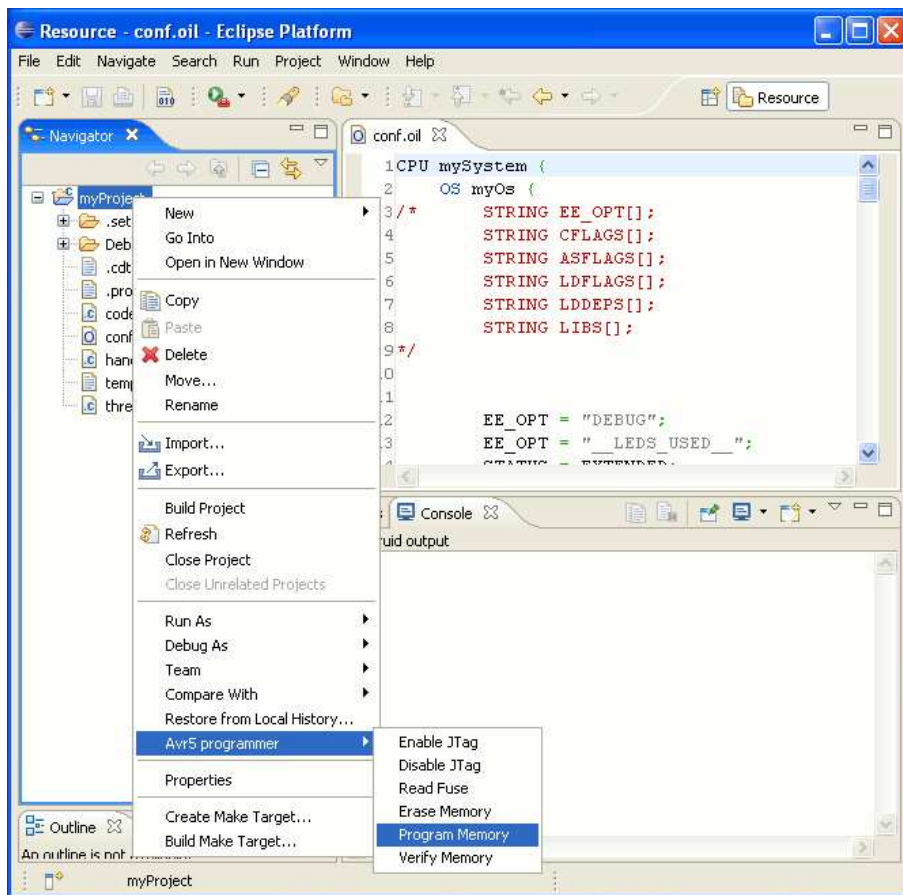
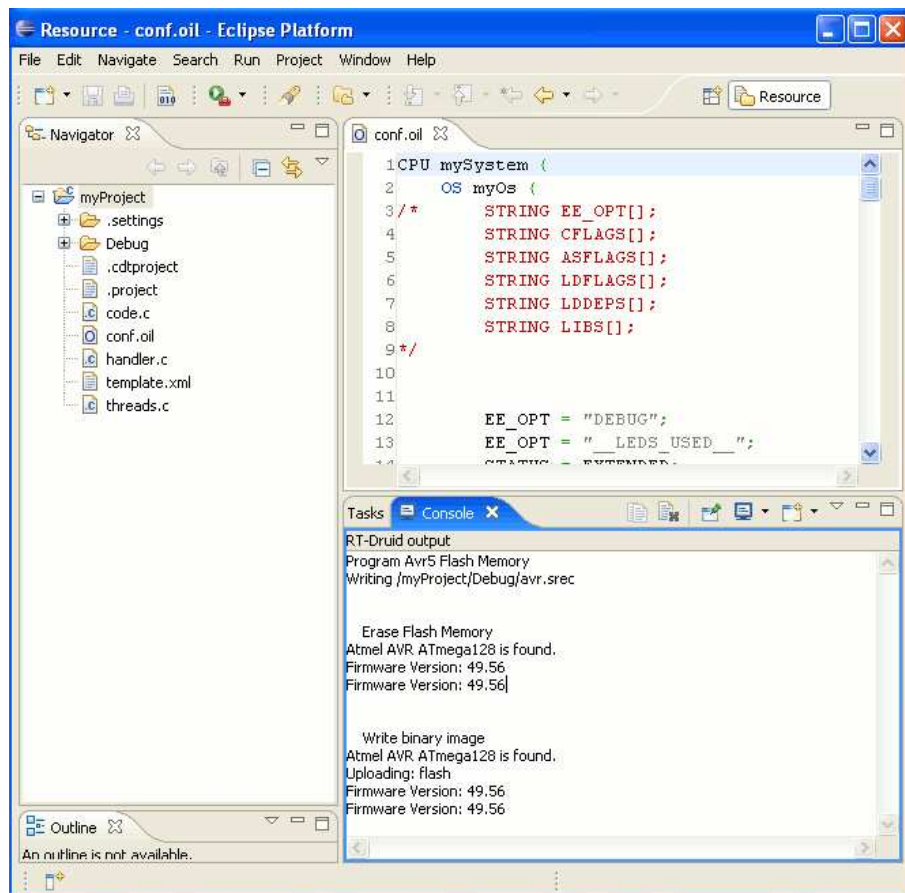

Figure 4.9: Program the Flash memory of the device.
Figure 4.10: Program the Flash memory process.
8. You can now program the device using `avr5` programmer as shown in Figure 4.9 and in Figure 4.10. Please remember that you have to connect ISP6PIN plug of the STK500 with the SPROG plug of the STK501 through 6-wires cable.